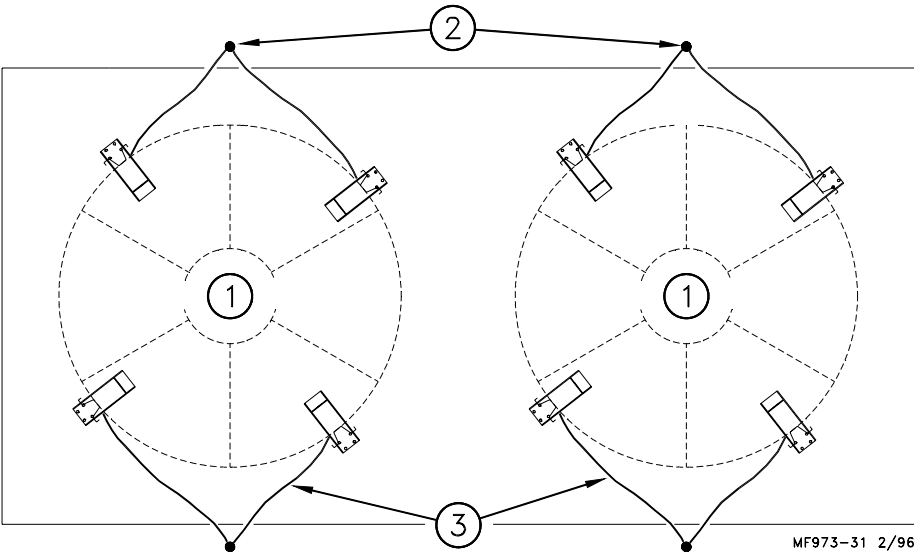

Figure 17. Ground Rod placement for multiple bin installations (top view).
- Two (4)-legged bins, with separate scales systems, requires (4) ground rods. Two legs should be attached to each ground rod. See Figure 17.